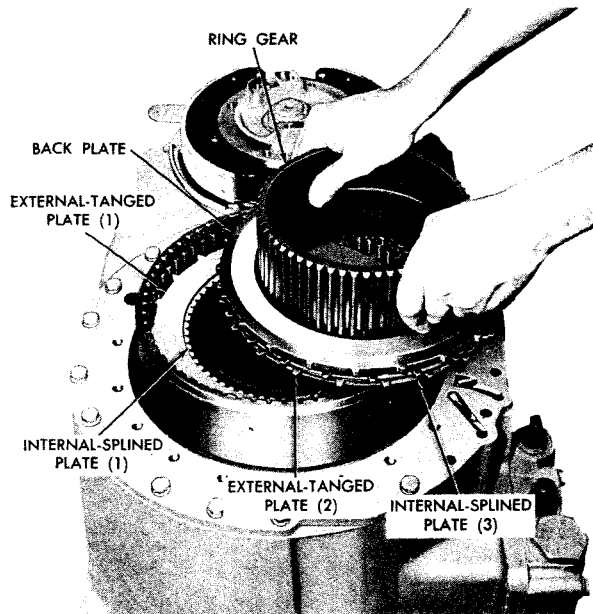

Fig. 5-22. Removing high-range ring gear and low-range clutch plates (-1 model)
(3) Lift out the ring gear, bringing with it the back plate, three internal-splined plates, and two external-tanged plates (fig. 5-22). Remove the two remaining clutch plates.